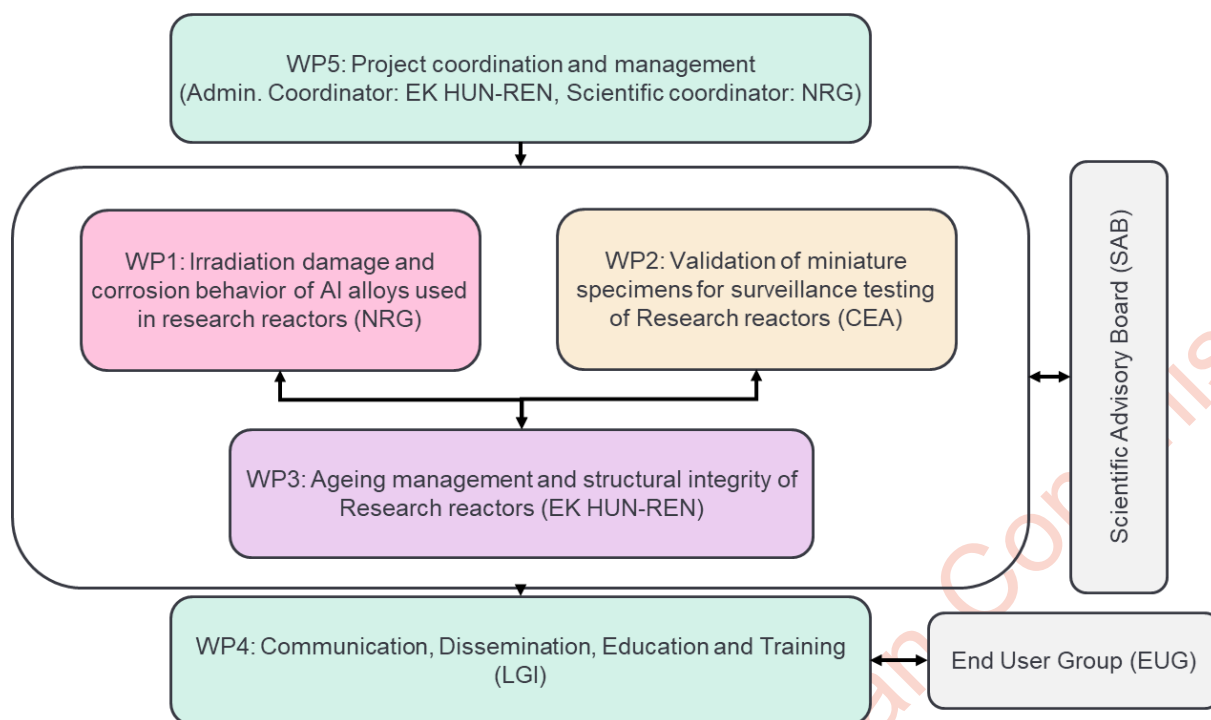

Figure 2. PERT chart showing WP structure of Magic-RR Project
Magic-RR realises these objectives by leveraging (1) available archive materials and data from the existing research reactors, e.g. from surveillance programs and shut down reactors, (2) operational experience of research reactor operators and (3) advanced characterisation and modelling techniques at universities and nuclear research centers. The following work package (WP) structure (Figure 2) is defined to achieve the forementioned objectives of Magic-RR.